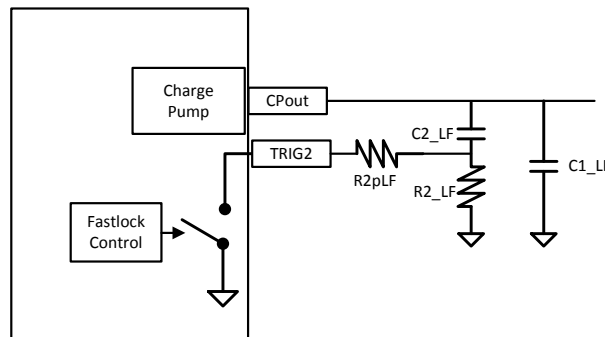

Figure 12. Suggested Schematic to Enable the Variable Loop Bandwidth Filter In Fastlock Mode
3. The loop filter can be configured to have a switchable R2 resistor to increase loop bandwidth and hence reduce lock time. A resistor R2pLF is added in parallel to R2\_LF and connected to the a terminal on the PLL to use the internal switch. Any of the terminal MUXout, MOD, TRIG1, or TRIG2 can be configured for the function. The terminal configuration is set as *Output TOC Running*. Also set the terminal as *output inverted OD* (OD for open-drain) so the output will be high impedance in normal operation and act as ground in Fastlock. The suggested schematic for that feature is shown in Figure 12.